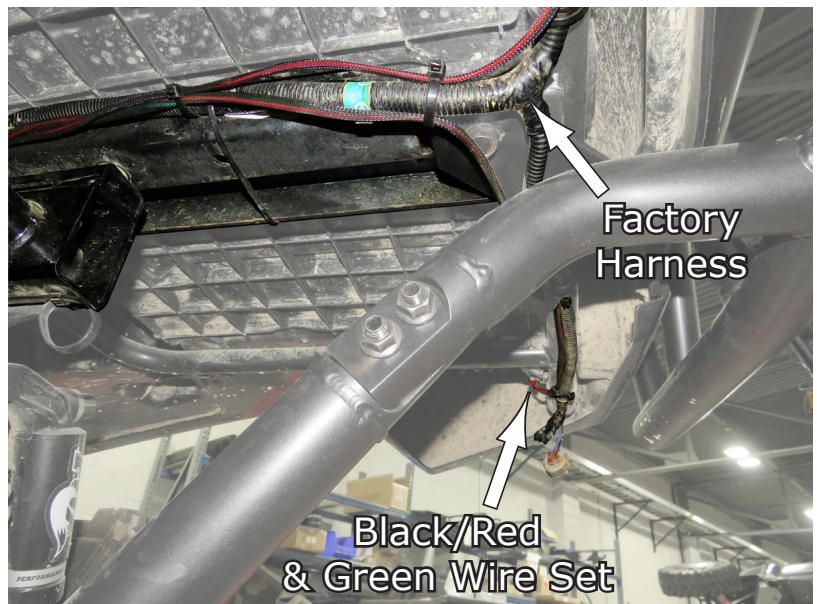

Fig.17
16. Now, continuing from that point, route the remaining harness on back up along the frame with the original harnessing as shown in **Fig.17**, and then route the remaining wires in the directions needed.
The Black/Red/Green wire set will go to the Right Turn Signal as seen in **Fig.17**.